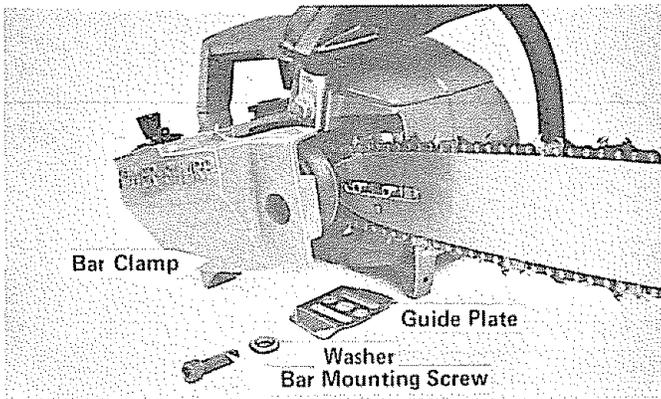

Figure 1
1. Remove the bar mounting screw, washer, and bar clamp with the bar wrench supplied with your saw. Remove one (1) of the two guide plates (Figure 1).